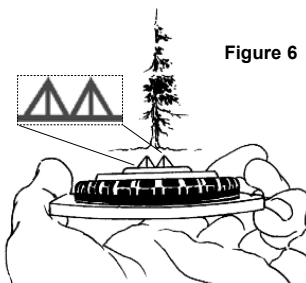

Figure 6
2. Sight object between the double prism alignment system. (Fig 6)